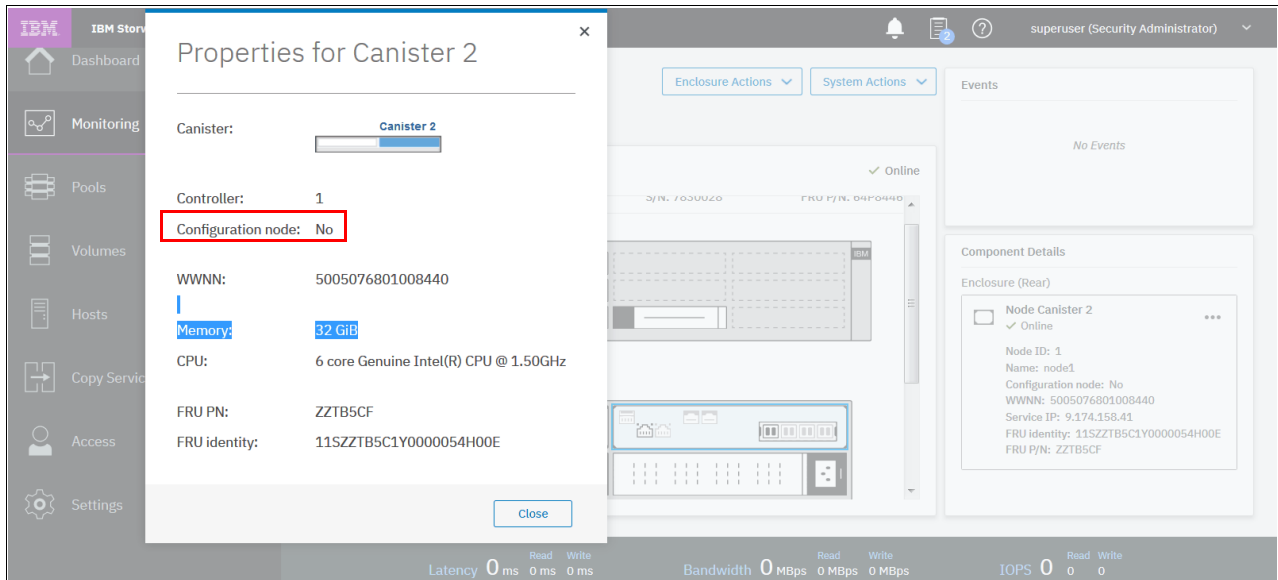

Figure 12-52 Checking the configuration node status
- Choose a node to update. Non-configuration nodes must be updated first. Update the configuration node last. Browse to **Monitoring** → **System** and click the canister. Select **Properties** to confirm the nodes that are the non-configuration nodes, as shown in Figure 12-52.